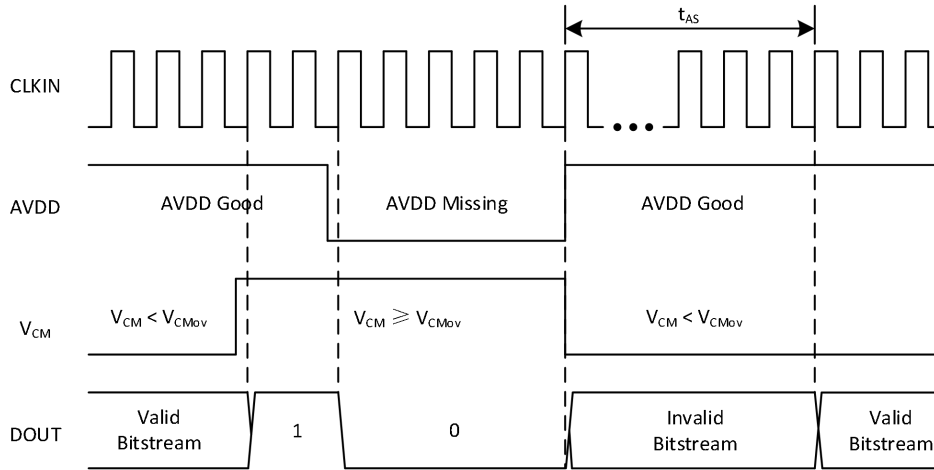

Figure 7.2 Fail-safe output
- When the undervoltage of AVDD is detected ($AVDD < AVDD_{UV}$), DOUT pin output a bitstream of all logic zeros, as shown in Figure 7.2.
- When the overvoltage of common-mode input voltage is detected ($V_{CM} > V_{CMov}$), DOUT pin output a bitstream of all logic ones, as shown in Figure 7.2.